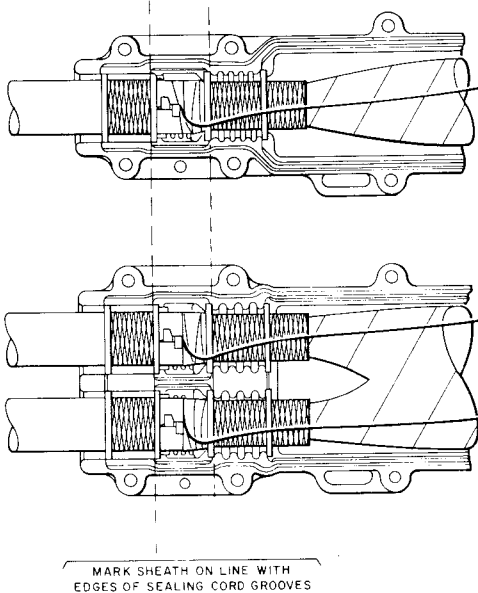

Fig. 14—Using Splice Case as a Template
**3.22** Using the splice case as a template, position the washers so they register properly in the splice case grooves (Fig. 14). Mark the jacket.